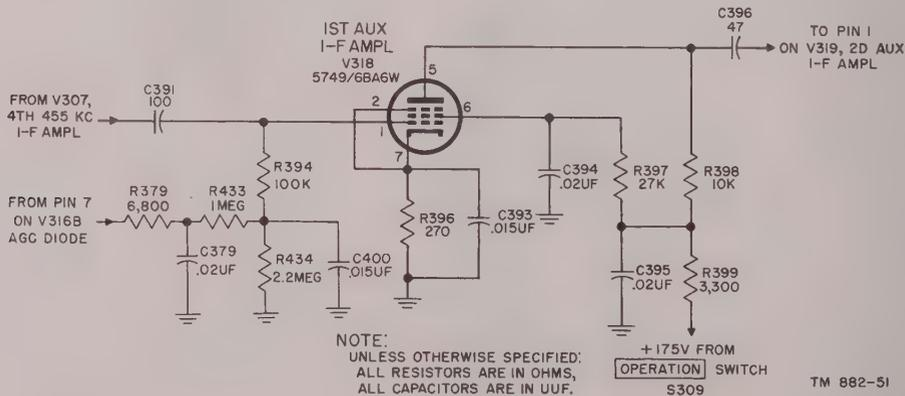

Figure 62. First auxiliary i-f amplifier.
(figs. 62, 63, and 64)
a. First Auxiliary I-f Amplifier (fig. 62). The first auxiliary i-f amplifier, V318, isolates the a-m and f-m circuits from the auxiliary circuit. The signal from the fourth 455-kc i-f amplifier is coupled to the control grid of V318 through the common coupling capacitor, C338 (not shown on fig. 62), and the auxiliary circuit coupling capacitor, C391; the primary function of C391 is to separate the control grid of V318 from the control grid of the a-m i-f amplifier, V314. This permits simultaneous operation of the auxiliary circuit with either the f-m or the a-m circuit. B+ to V318 is supplied through